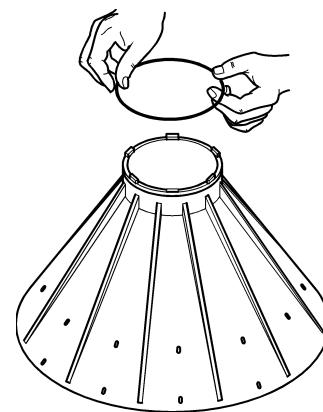

Figure 6.11
- 9) After carefully cleaning the groove, insert the **OR gasket** on the finned upper disk (fig. 6.11).